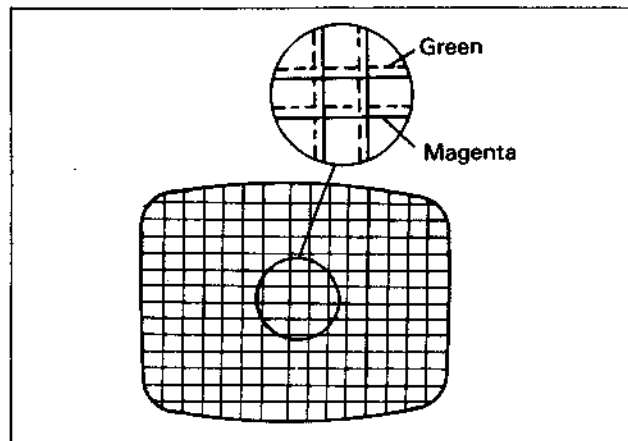

Fig. 6-4
5. Turn the green cutoff VR fully clockwise and adjust the two 6 pole convergence magnets so that the green and magenta become overlapped throughout the picture area to yield white. (Fig. 6-4)